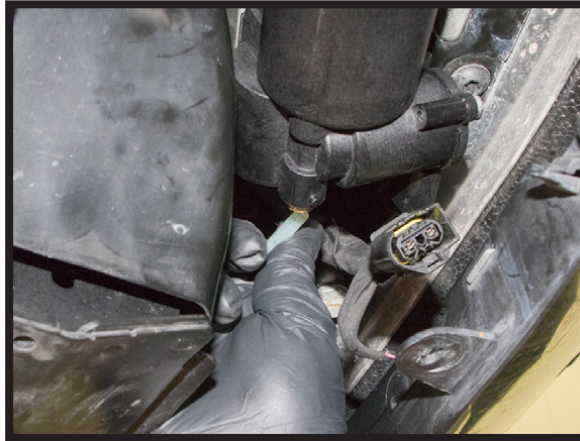

FIGURE 16
4. REINSTALL THE AIR LINE. (FIGURE 16)